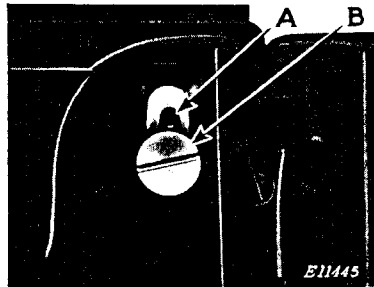

FIG. 47
The amount of movement of the rear feed dog is determined by the position of the slide block which is held in place by the thumb screw (B, Fig. 47) at the back of the machine. Moving the thumb screw downward in the slot increases the gathering motion, and moving it upward decreases this motion.
If insufficient gathering effect is obtained with the thumb screw (B) at the lower end of the slot, the range of adjustment may be increased by removing the thumb screw and inserting it in the upper hole (A, Fig. 47) in the slide block.